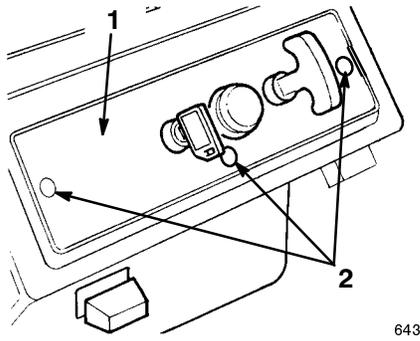

Figure 16
3. Remove the three screws that secure the control panel to the housing (Fig. 16).
- Remove the three mounting screws that secure the control panel to the housing (Fig. 16).
- Remove the three screws that secure the control panel to the housing (Fig. 16).